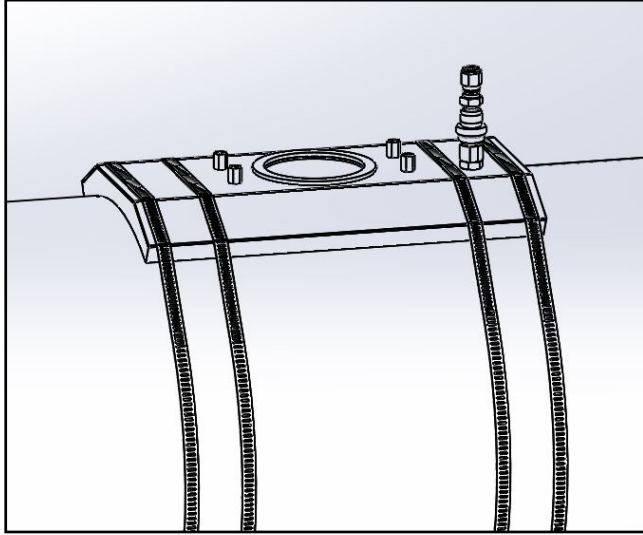

Figure 9
- (6) Once the base assembly is properly aligned, secure it to the duct using large hose clamps (not provided) as shown in Figure 9. When tightening, alternate frequently between the hose clamps to achieve even gasket compression against the duct. Completely tighten down the hose clamps so that the base plate is firmly sealed against the gasket in the bends of the plate. **If there is a gap between the base plate and duct mount gasket anywhere along the perimeter of the plate, untighten the hose clamps and repeat step 6 with more frequent alternating between hose clamps.**